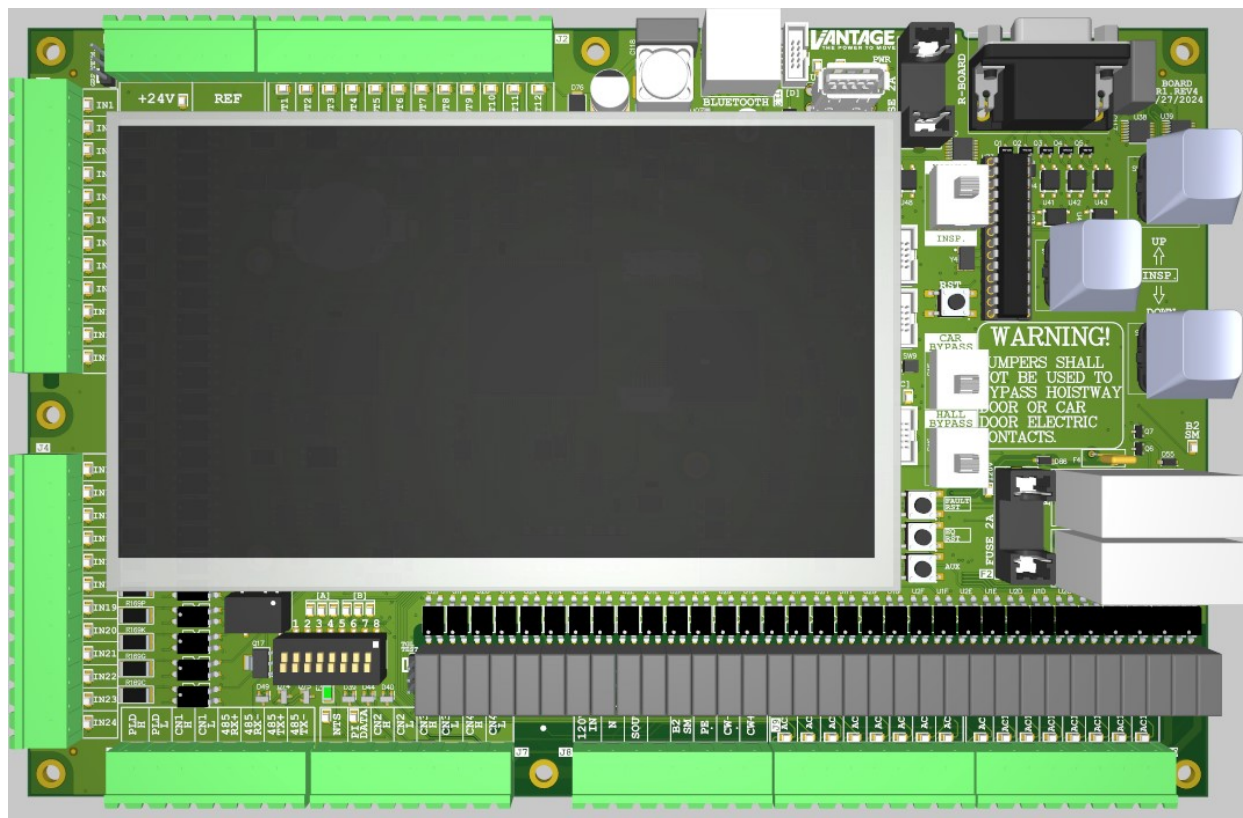
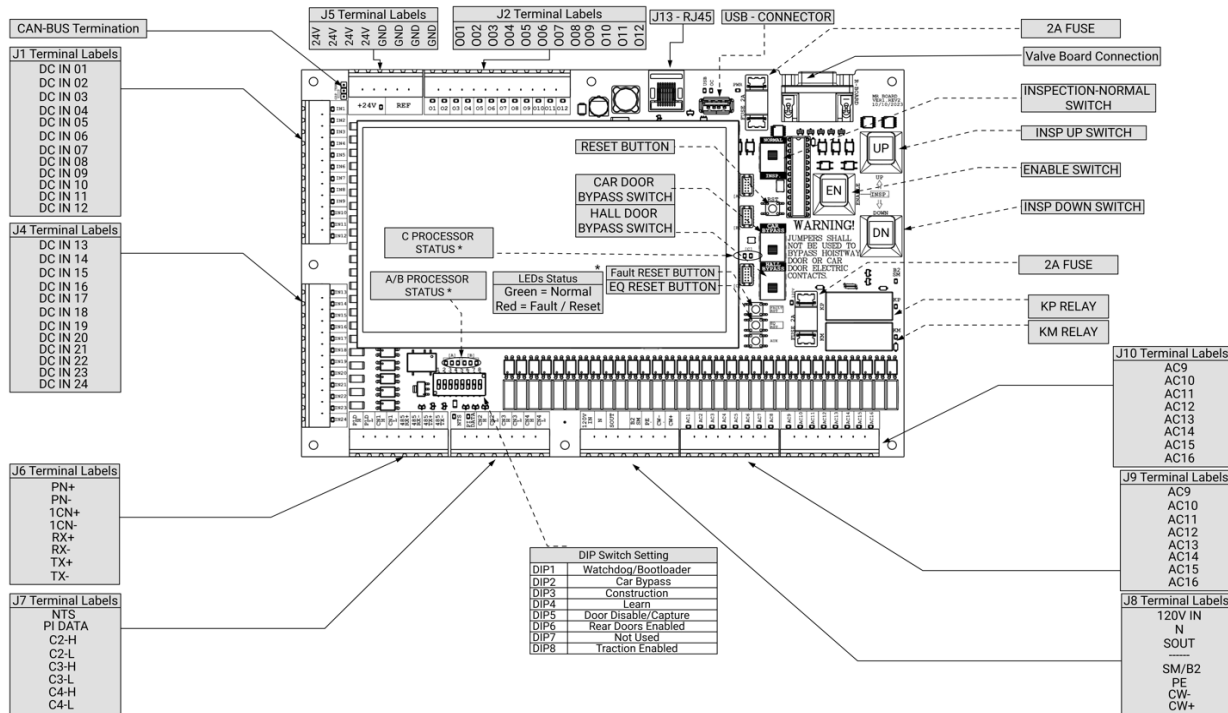

Figure 4: Machine Room (MR) Board - NEXS-0001
Figure 5: Machine Room (MR) Board Callouts
The Machine Room (MR) Board (shown in Figure 4 and Figure 5) is installed in the Machine Room Controller Cabinet and is the central control board for the Nexus™ controller, executing main system programs.